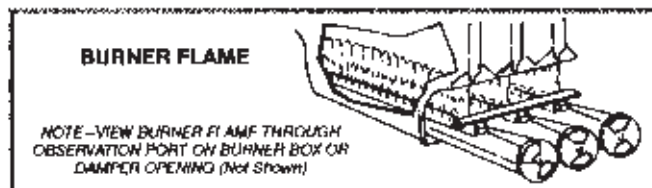

FIGURE 8
- 2- *Burner Flame* — Start burner and allow to operate for a few minutes to establish normal burning conditions. Check burner flame by observation. Flame should be predominantly blue in color, strong in appearance and should rise directly from the burner ports in the heat exchanger. Check to see that flame is burning from all continuous ribbon ports and that flame does not strike the sides of the heat exchanger. See figure 8.